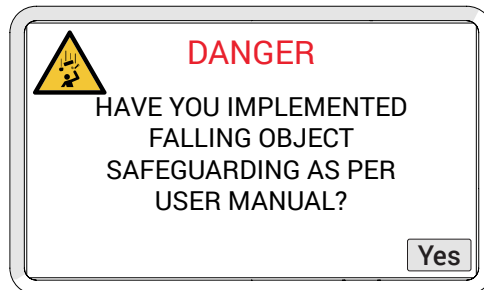

Fig. 177 - Falling object warning
6. A second warning message (Fig. 177) will display. Acknowledge this warning by touching **Yes**.